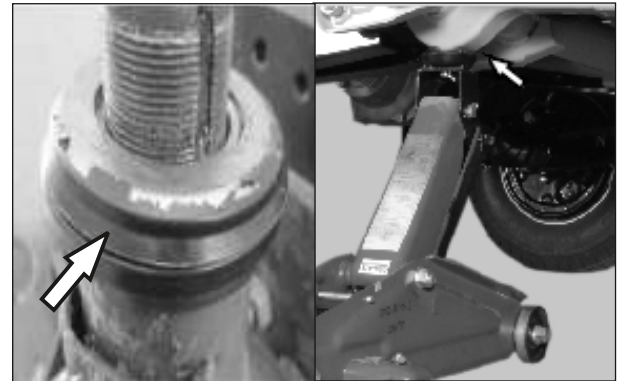

Fig. 2.106
- Take out the dust cover inner ,insert top, inner race top and ball cage assembly top. (Fig. 2.106)
- Place a jack under the vehicle and lift it. (Fig. 2.106)